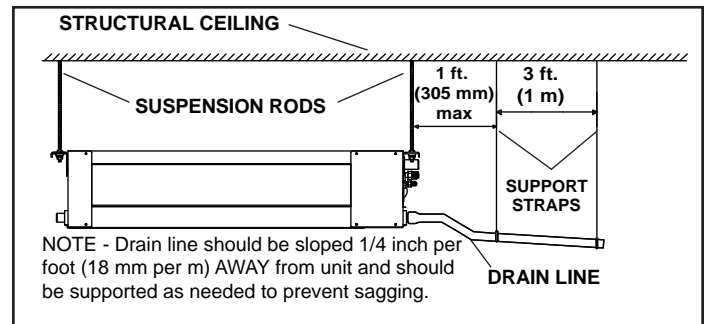

Figure 10. Sloped Condensate Drain -- Single Unit
3. See figure 10 for applications including a single unit and a single gravity drain. In this case, ensure that the drain line is properly sloped (no less than 1/4 inch per foot) and condensate lines are routed to ensure moisture is drained away from the indoor unit. A gravity drain connection port is located on the side of the unit with the refrigerant piping and on the opposite side of the unit. Select one connection to use and leave the unused connection port sealed. Seal and plug the lift pump connection port when using either gravity drain connection port.